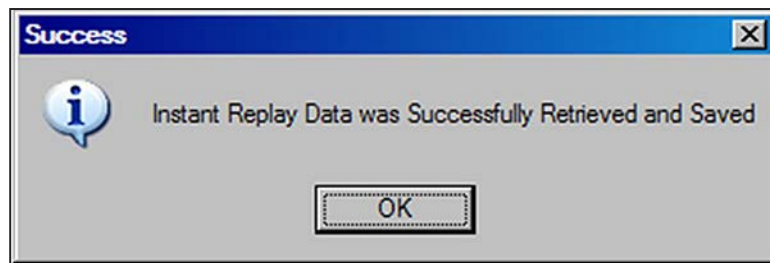

Figure 122. Success dialog box.
STEP 11. If no errors are encountered, the Success dialog box opens. See Figure 122. Click on the **OK** button, and close the *Communication Manager* screen.